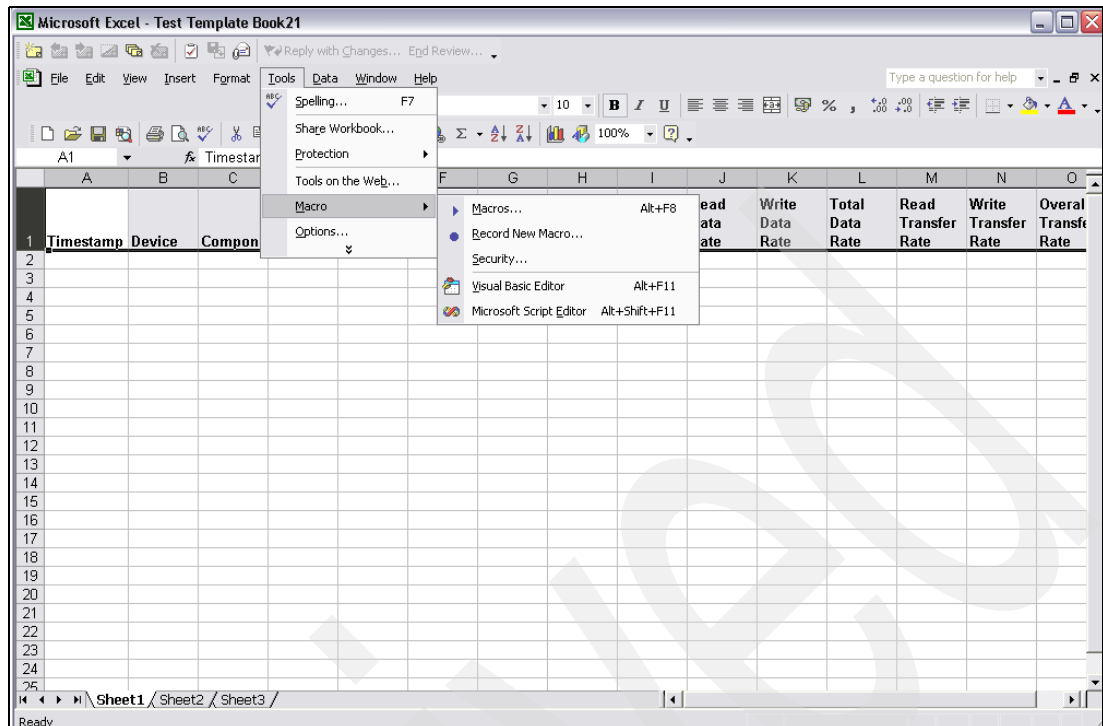

Figure 6-65 Select Macro
1. Open the **Tools** menu, select **Macro**, and then select **Macros** (see Figure 6-65 on page 292).